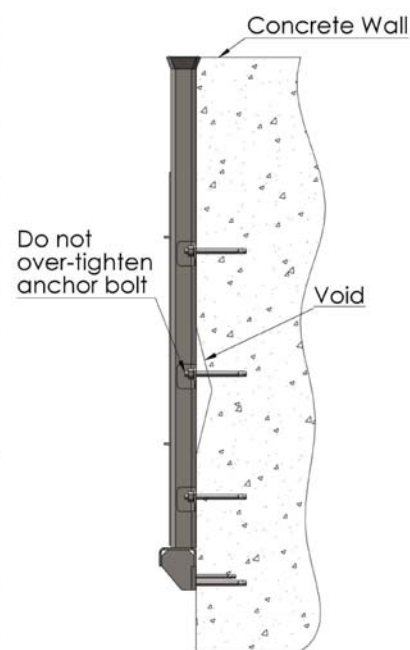

Figure 15
**CAUTION!:** If the stop gate is not completely in contact with the wall, do not over-tighten the anchor bolts. Over tightening may bend or distort the frame. If the wall flatness and levelness is according to the specified standards, the construction sealant will fill in the remaining void (see Figure 15).